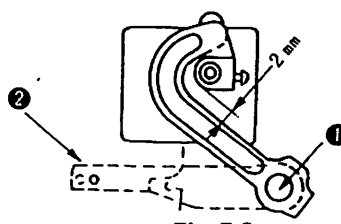

Fig. 5-9
13) Temporarily set the pedal link setscrew (Fig. 5-9 ①) and install the springs for depressing the front and back parts of the pedal. (pedal sensors type A: 1, type B: 2).
14) Turn the pedal lever (Fig. 5-9 ②) in the arrow direction until it contacts the stopper. Tighten the link setscrew where the clearance between the lever and the potentiometer link becomes 2 mm (0.079") and the axial looseness becomes 0.05 ~ 0.1 mm (0.002" ~ 0.004").